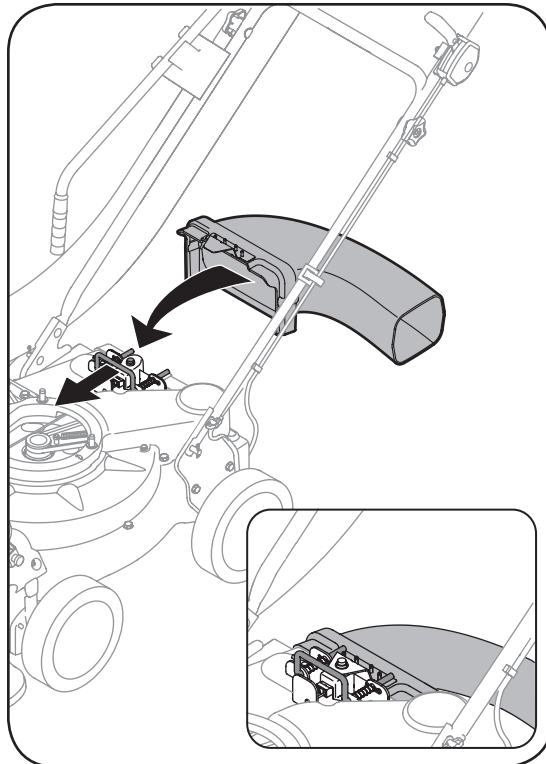

Figure 3-8
8. a. Grasp blower chute with one hand and slide locking rod on mounting bracket with other hand toward engine. Use the end of mounting bracket as leverage when sliding the locking rod. See Figure 3-8.
1. Grasp blower chute with one hand and pull lock rod on mounting bracket with other hand toward engine to release. Refer to Figure 3-8 in SETTING UP YOUR CHIPPER SHREDDER VACUUM.